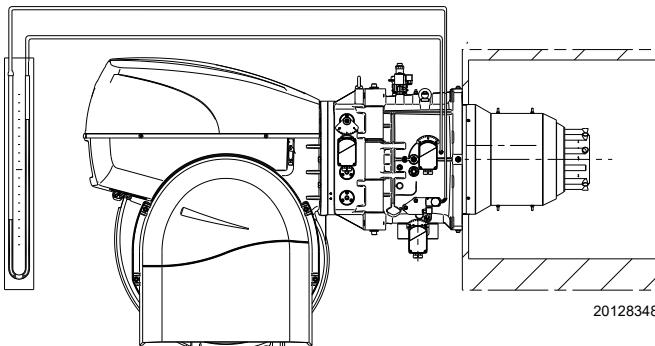

Fig. 29
- Fit a U-type pressure gauge or a differential pressure gauge (Fig. 29), with socket (+) on the gas pressure of the pipe coupling and (-) in the combustion chamber.
The arrival of gas at the sleeve is indicated by the U-type manometer (Fig. 29).